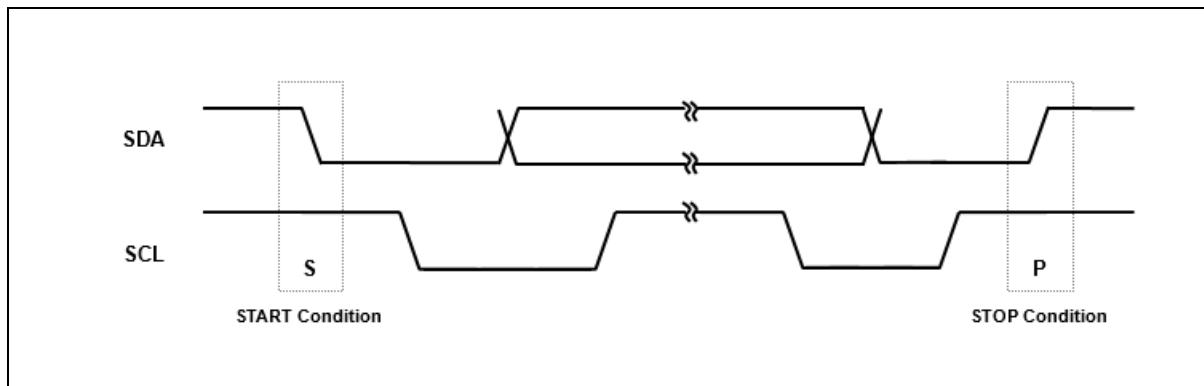

Figure 87. START and STOP Conditions ($n = 0$ and 1)
Within the procedure of the I²C-bus, unique situations arise which are defined as the START(S) and STOP(P) conditions (refer to Figure 87):
- An “H” to “L” transition on the SDA line while SCL is “H” is defined as the START(S) condition.